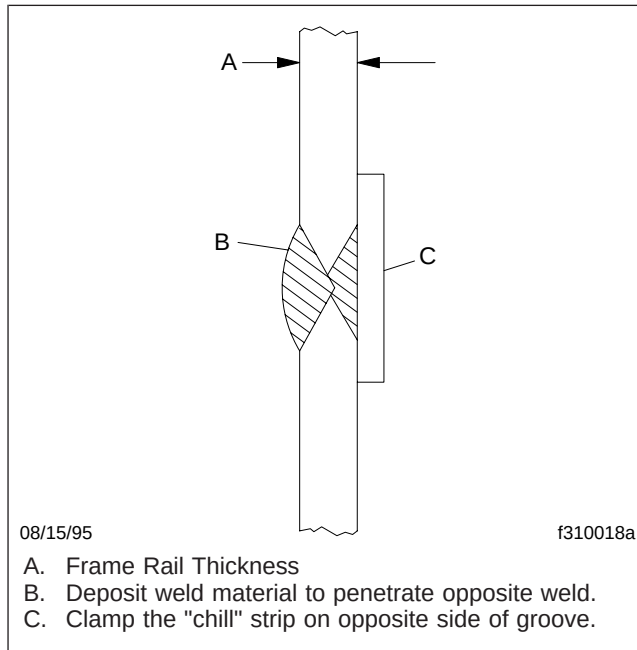

Fig. 7, Second Weld
7. Clamp the "chill" strip on the opposite side of the groove. See Fig. 7. Weld the V-groove; make full penetration of the weld.